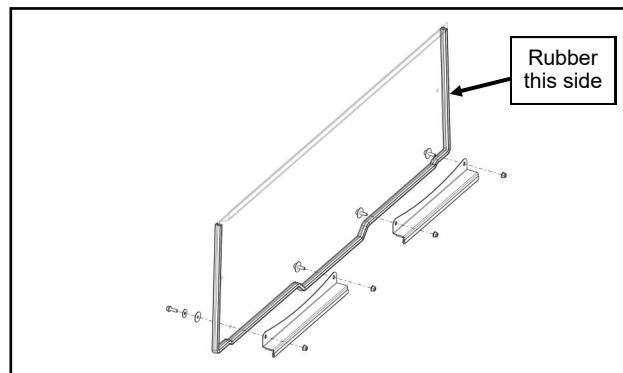

Fig. 1.1 (Install Brackets onto Rear Panel)
- 1.1 Per figure 1.1, install both lower mounting bracket assemblies to the inside surface of the rear panel using hardware listed below. Make sure that the rubber washer is against the outside surface of the rear panel.